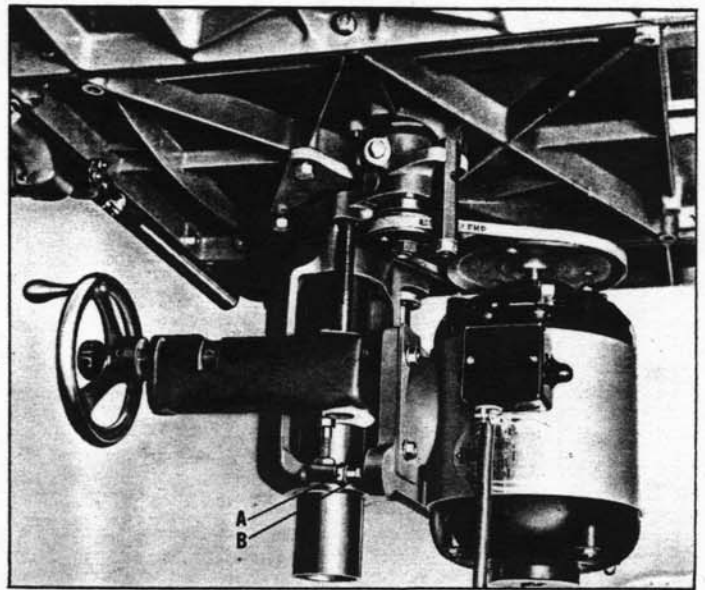

Fig. 4
The motor plate is hinged so that tension can be applied to the belt. To adjust tension, loosen locknut (A) Fig. 4, and turn screw (B) in or out until correct tension is applied to the belt.